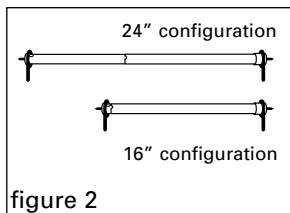
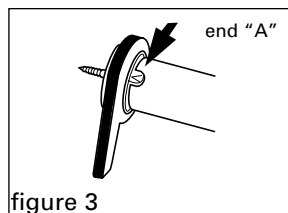
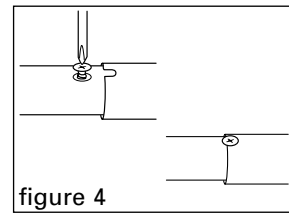

figure 2
figure 3
figure 4
2. Determine if you have 16" or 24' ceiling joist centers (figure 2). The Saf-T-Brace® is preset at the factory for 16" centers. If you have 24" centers, you will need to slide the inner tube (end "A") out about 8" (figure 3) and insert the small sheet metal screw provided in the hole of the inner tube. After installing this stop screw, slide the notch on the outer tube up to lock it around the screw (figure 4).